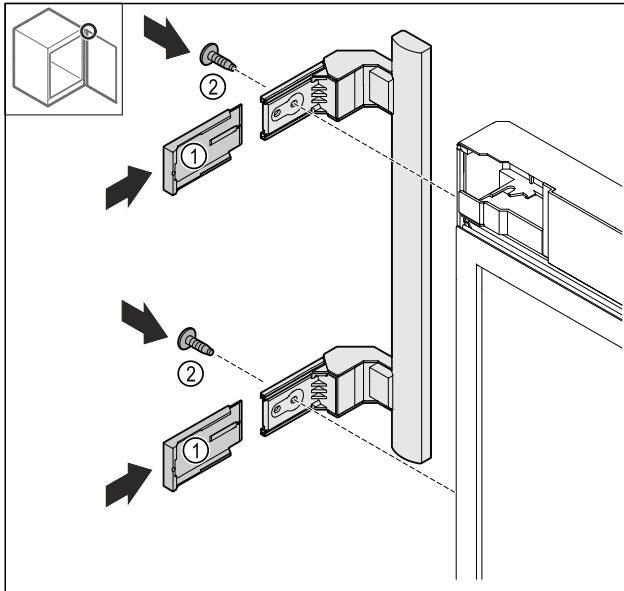

Fig. 17
- ▶ Push the covers Fig. 17 (1) on.